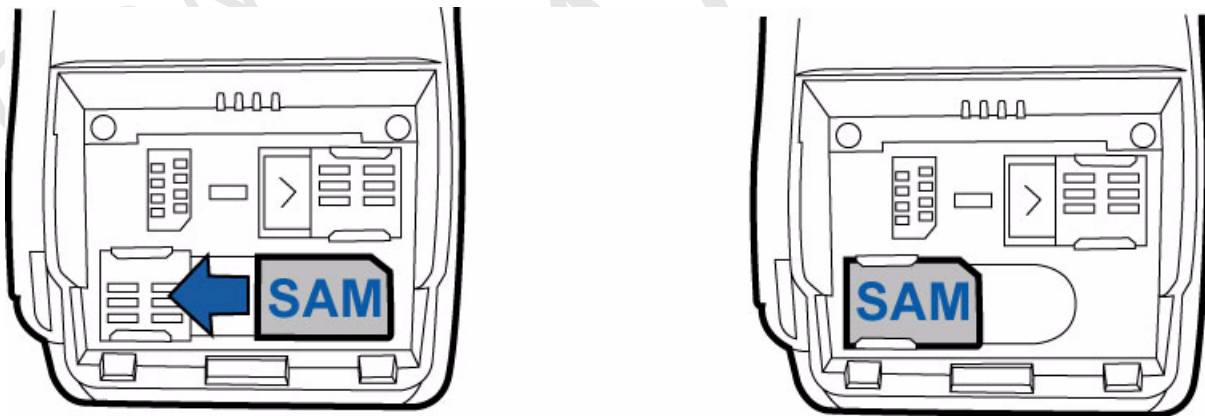

Figure 18 Installing MSAM Card
- 6 Install an MSAM card by aligning the card and carefully sliding it within the guides on the cover until it is fully inserted (see Figure 18).
Before inserting the MSAM card, position it as shown in Figure 18, with the card's gold contacts facing the smart card reader end of the terminal. The cardholder connector base has a set of contacts and a notch on one corner to ensure the MSAM card is positioned correctly. The MSAM card has a notch on one corner to ensure that it fits into the connector base in only one way. The MSAM compartment door will not close properly if the MSAM card is installed incorrectly.